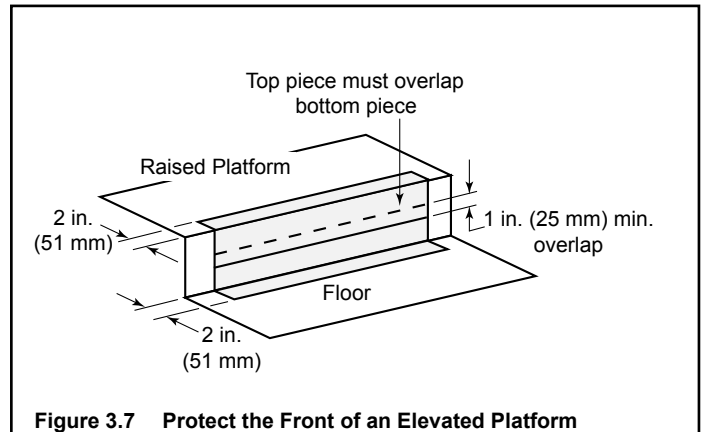

Figure 3.7 Protect the Front of an Elevated Platform
- Protect the front of a platform elevated above the hearth extension with metal strips (not included with fireplace) per Figure 3.7. See Section 6 for hearth extension instructions.